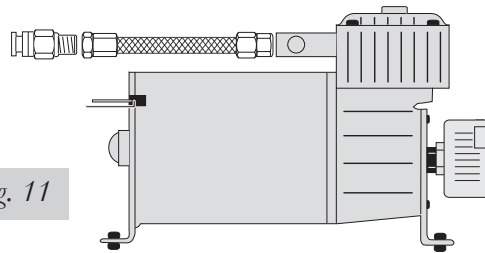

fig. 11
- Install the fitting (C) onto the compressor leader hose (Fig. 11). Install one end of the air line into the fitting. You will feel/hear it “click” into place. There will be $\frac{9}{16}$ ” of air line in the fitting when properly seated.